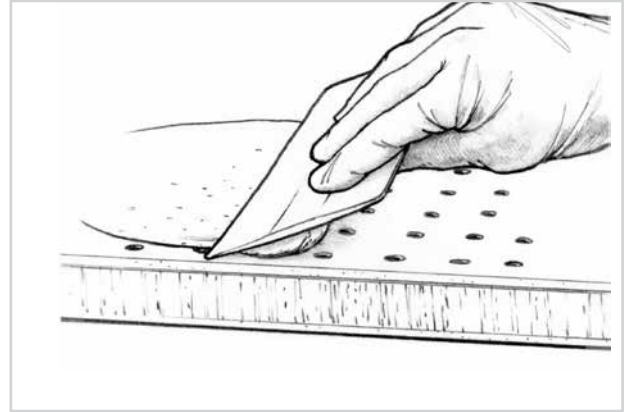

Figure 5-4 Fill any remaining voids and fair the surface with an epoxy/407 mixture.
6. Sand the surface and fill any remaining holes with an epoxy/407 low-density filler mixture, thickened to the consistency of peanut butter (Figure 5-4). After the epoxy has cured thoroughly, sand the surface fair and finish it as described in Section 2.